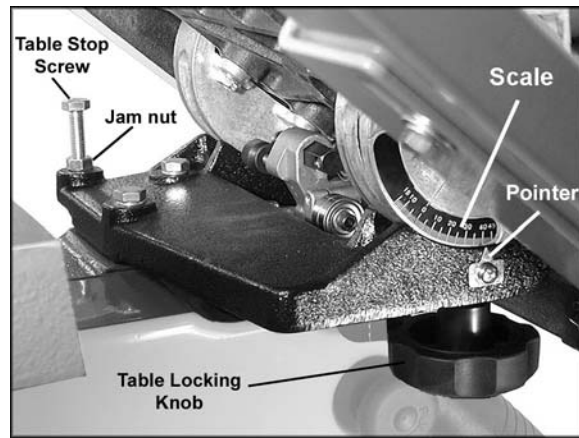

Figure 39
Refer to Figure 39.
Refer to Figures 39 and 40.
5. Loosen jam nut (Figure 39) and turn table stop screw left or right to raise or lower the stop. Tighten jam nut down against the trunnion support to hold table stop screw in place.
7. Make sure pointer (Figure 39) indicates zero. If it does not, loosen screw and move pointer to align with zero. Re-tighten screw.